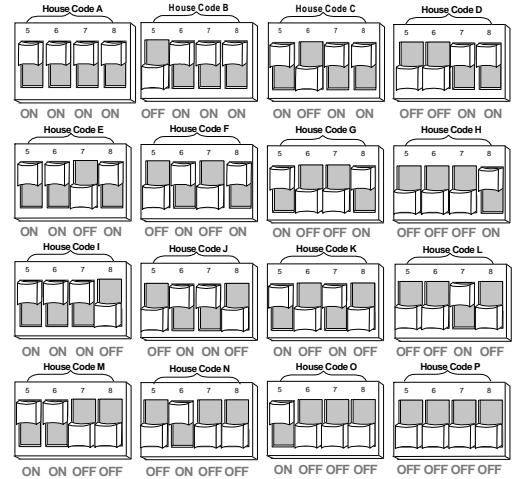

Figure 7. House Codes
**Note:** For House Codes, see Figure 7.